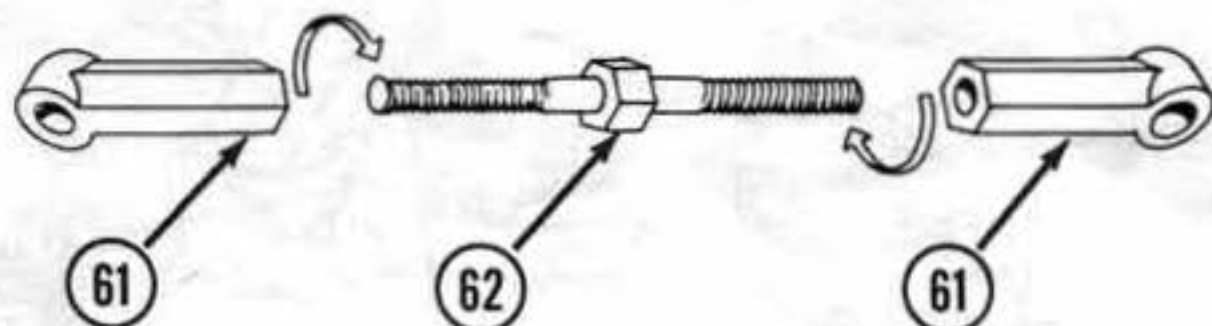

FIG. 25
32. Thread an adjustable rod end (61) onto each end of a 1 1/8" turnbuckle (62) taking care to note one side of turnbuckle has left hand threads. Fig.25
11. Thread an adjustable rod end (61) onto each end of the 1 1/2" turnbuckle (106). *Note: One end of turnbuckle has left hand threads. Repeat this step with another 1 1/2" turnbuckle (106). Fig.25